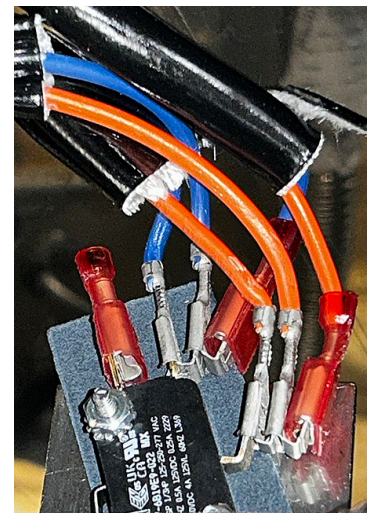

Figure 10
16. Reattach the pigtails to the two (2) terminals on the switch (see Figure 10).